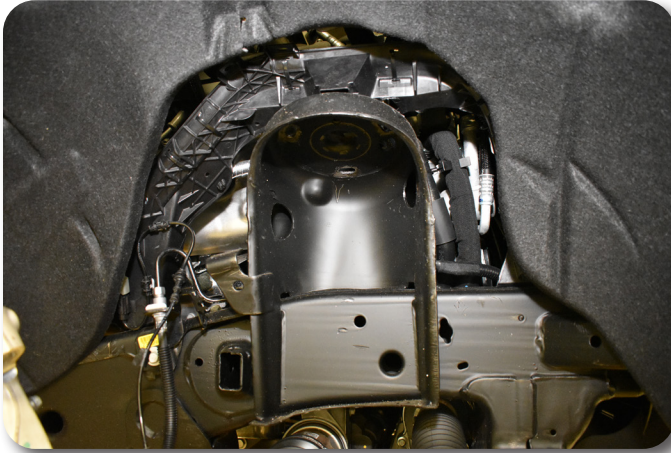

Figure 14
18. Remove the ABS wire / brake sensor wire from the upper control arm. Remove the upper control arm from the vehicle by removing the two bolts attaching the upper control arm to the strut bucket / frame **Figure 14**. Save hardware.